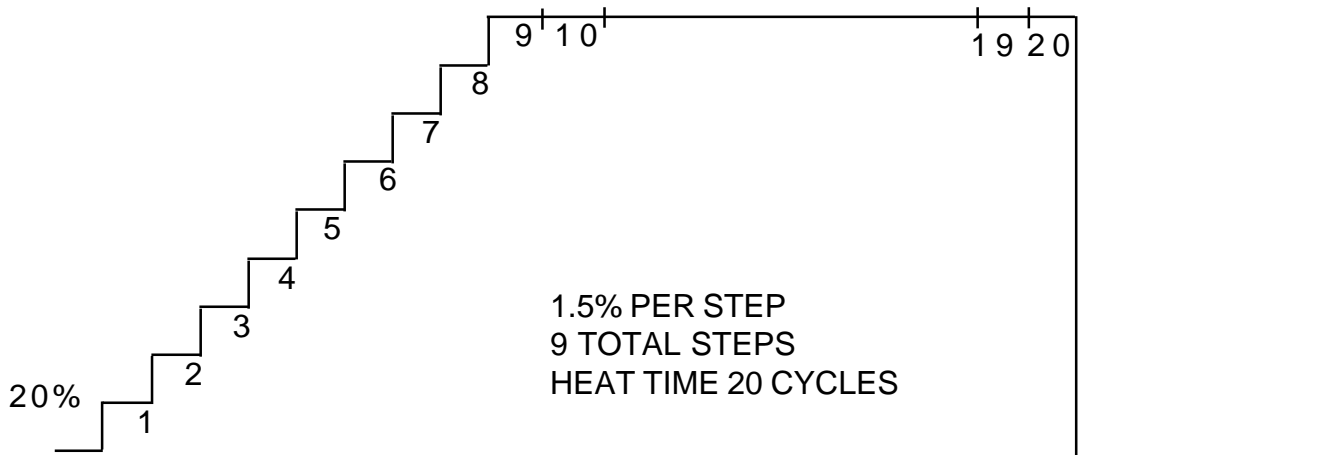

FIG. 1
- Upslope is defined as a stair step ladder where HEAT% is incremented, from an initial value, in small increments and over a specified period of time. (See figure 1)